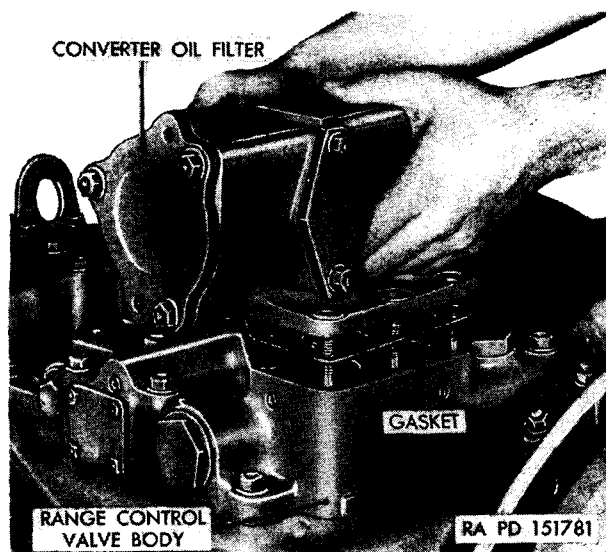

Figure 42. Removing or installing converter-oil-filter assembly.
b. REMOVAL OF CONVERTER-OIL-FILTER ASSEMBLY. Use a $\frac{5}{16}$ -inch wrench to remove seven jam nuts, nuts, and washers from the converter-oil-filter-body studs. Remove the filter body assembly and gasket (fig. 42).